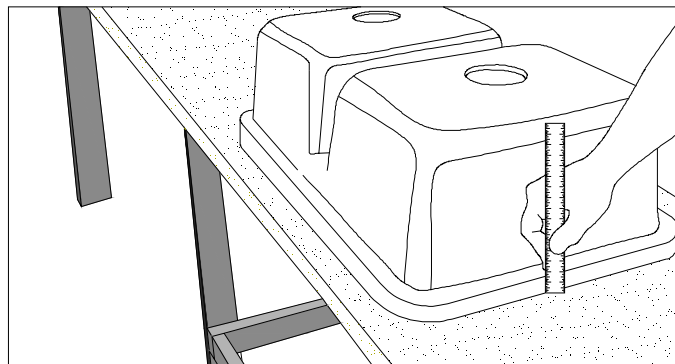

Figure 2A
- ☐  $\frac{3}{4}$ " or less for other methods (FIG. 2A)